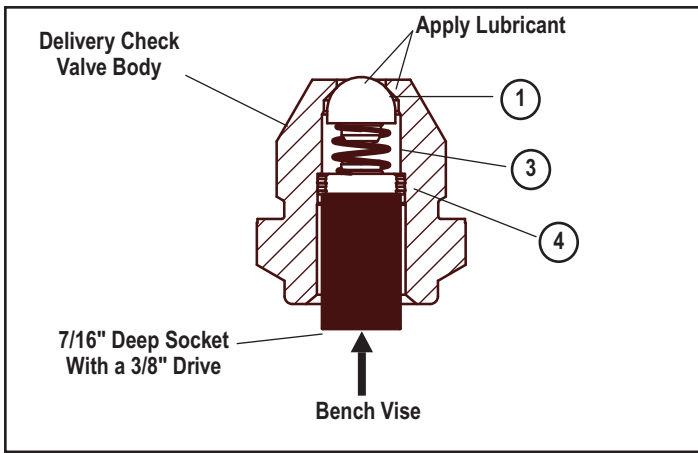

Figure 5 - Check Valve Assembly
1. Lubricate the o-ring (7) and the long check valve body (6) with the lubricant provided. **Note:** Use only the lubricant contained in this kit.
2. Install the o-ring (7) on the long check valve body (6). Push the o-ring (7) down, over the 3 guide lands until it is in the o-ring groove. Ensure the o-ring (7) is seated properly and not twisted.
3. Install the spring (8) on the white check valve body (6) so that the small coils of the spring slip over the check valve body.
4. Install the assembled long check valve body (6), o-ring (7), and spring (8) in the end cover delivery check valve port so that the o-ring (7) rests on its seat in the end cover and the spring (8) is visible.
5. Install the delivery check valve plug that was removed in step 1 of the disassembly, into the air dryer end cover. See Figure 5. Torque the plug to 130-170 inch pounds.
2. Lubricate the entire spherical surface of the check valve (1) and bore chamfer of the check valve housing with the lubricant contained in this kit as shown in Figure 5. **Note:** Use only the lubricant contained in this kit.
3. Place the retainer (4), spring (3) and check valve (1) sub-assembly into the check valve housing. Press the retainer (4) using a 7/16" deep socket with a 3/8" drive, and a vise as shown in Figure 5.
6. Install the o-ring (1) on the outer body of the delivery check valve assembly. Ensure the o-ring (1) is seated properly and not twisted. Lubricate the o-ring (1) with the lubricant provided in this kit. **Note:** Use only the lubricant contained in this kit.